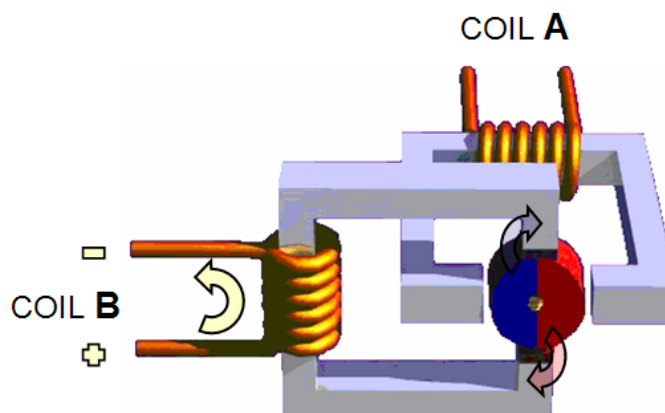

Figure 3. Stepper Motor Coil B
3. Coil B is then turned on and coil A is turned off (Figure 3).
4. The gear then rotates to be aligned with the next gear Figure 3.